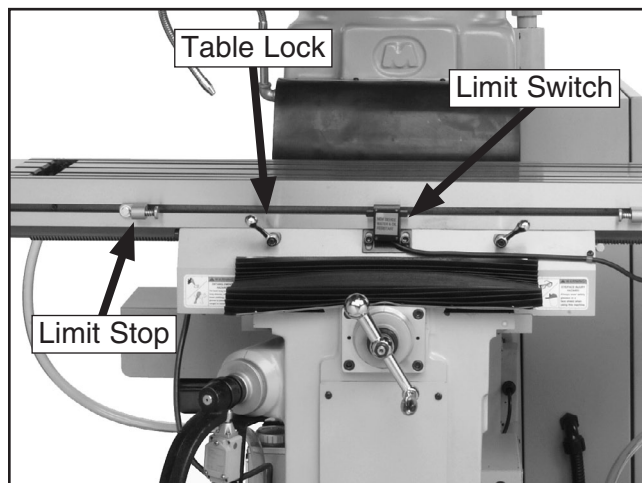

Figure 28. Table lock, limit switch, and limit stop.
1. Loosen the table locks (see **Figure 28**).